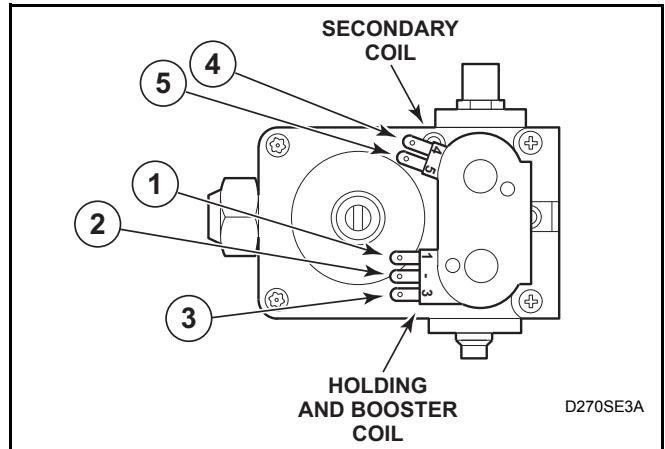

Figure 8
- e. Set test meter to read Ohms and put meter probes to terminals shown in *Figure 8*, and in the following chart.